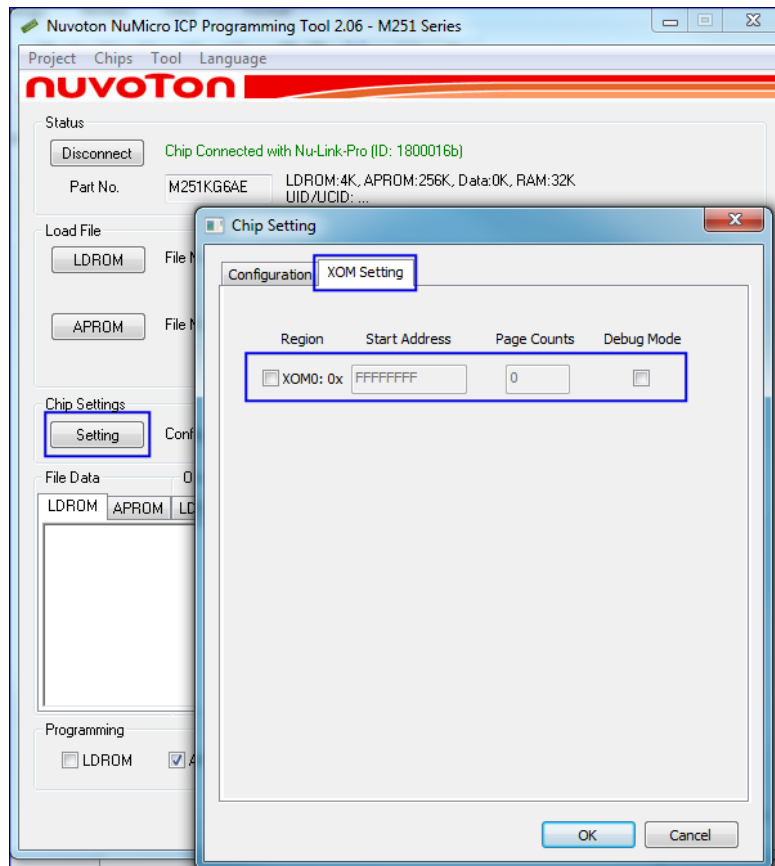

Figure 4-1 Open M251 Settings and XOM Setting
2. Click “Setting” button to open the “*M251 Settings*” page, as shown in Figure 4-1.